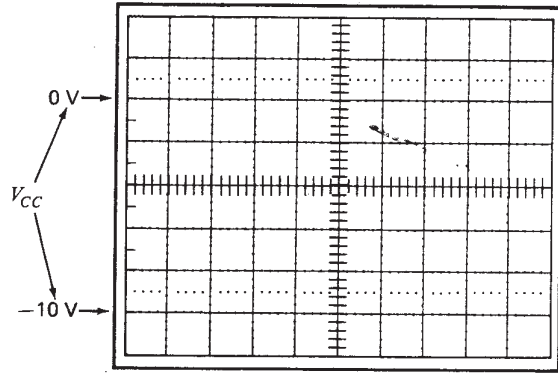

Fig. 58-5. Oscilloscope graticule.
22. Record the output waveform of the amplifier with the oscilloscope set at dc coupling. When drawing the output waveforms, indicate the parameters of the transistor bias as shown on the graticule in Fig. 58-5.